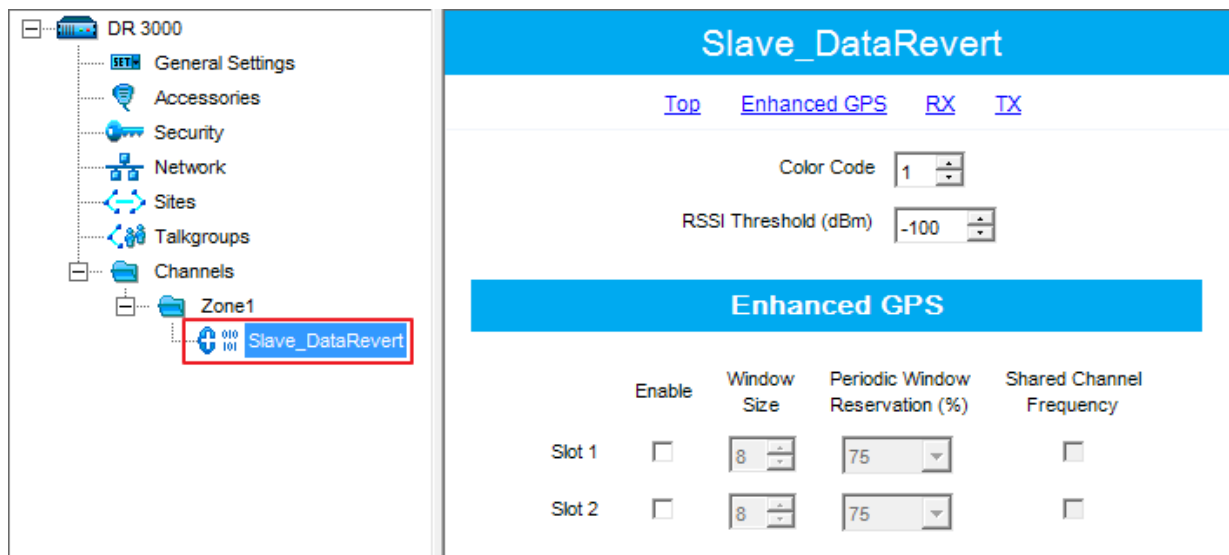

Fig. 9 - Creating a channel
1. In the **Channels** tab create **Capacity Plus Data Channel** (*Slave_DataRevert*) (Fig.9).